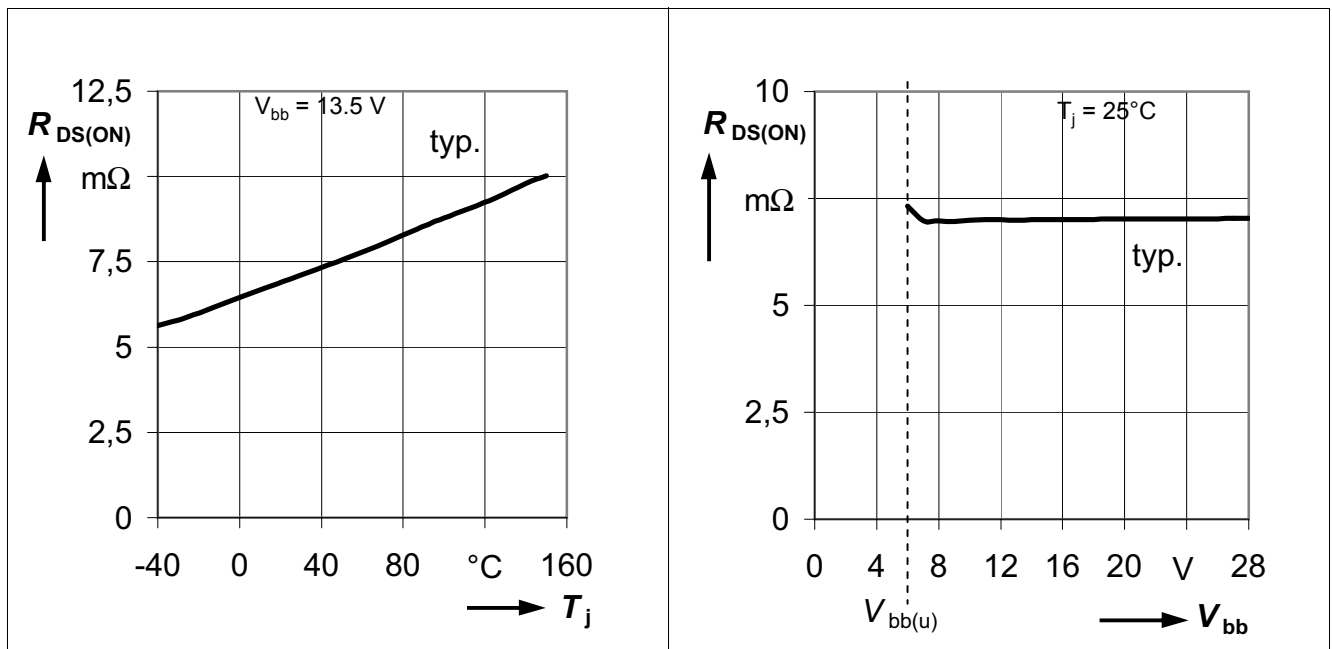

**Figure 5** Input Circuit
**Figure 5** shows the input circuit of the BTS50070-1EGA. The input resistor to ground ensures that the input signal is low in case of open input pin. The zener diode protects the input circuit against ESD pulses.